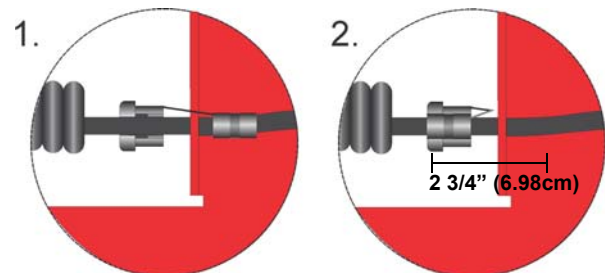

Figure 1.5 Strain Relief Clip Installation
3. Attach the strain relief clip to the microphone cord. The strain relief clip should have about $2\frac{3}{4}$ " (6.98cm) of the microphone cord through it. See Figure 1.5.